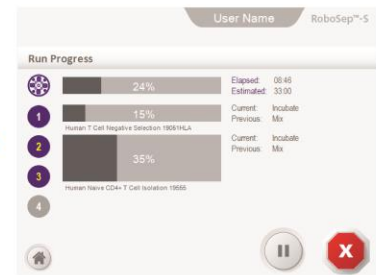

Figure 23. Loading the Carousel and Running a Protocol
Note: The Carousel Loading screen will indicate the reagent volumes required for the separation based on the sample volume assigned (Figure 23).
Note: Ensure the resource is loaded in the correct quadrant. The quadrant number is displayed both in the bottom left corner (highlighted in dark purple) and in the carousel schematic on the Carousel Loading screen (Figure 23). Some RoboSep™-S protocols may require reagent resources to be placed in positions with conflicting symbols (e.g. Magnetic Particles [triangle] assigned to the circle position); these exceptions are noted in the list of reagent resources provided on the display screen and are correct.
5. Optional: Scan barcodes to record reagent-specific information such as catalog numbers, lot numbers, and expiration dates (section 4.3.4). Select  [Barcode scanner] on the Carousel Loading screen (Figure 23) to scan desired barcodes for resources loaded in each quadrant. Once all scanning is finished, select  [Save] to save the information. Resource-specific information will be recorded in the End-of Run Reports for each protocol (section 5.1).
6. Select  [Run] on the Carousel Loading screen to start the protocol. A Run Progress screen will appear after approximately one minute (Figure 23).
By default, all barcodes will be scanned. If you do not want to scan all barcodes at once during each run, edit the user profile preferences and deselect the “Enable autoscanning of barcodes” option (section 4.1.3). Then select  [Barcode scanner] on the Carousel Loading screen (Figure 23) to scan desired barcodes for resources loaded in each quadrant. Once all scanning is finished, select  [Save] to save the information. Refer to Table 3 for the various messages and icons that may appear on the screen after barcode scanning.